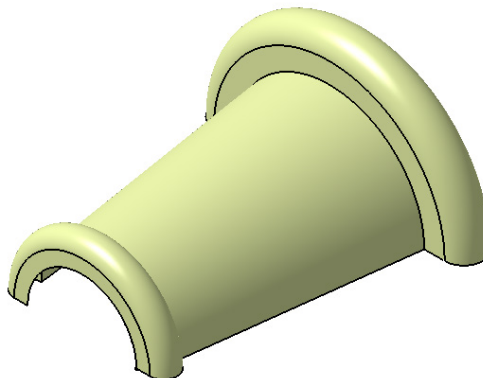

Figure 17-86 Revolved base surface
5. Choose the **OK** button from the **Revolution Surface Definition** dialog box. Figure 17-86 shows the resulting revolved base feature.